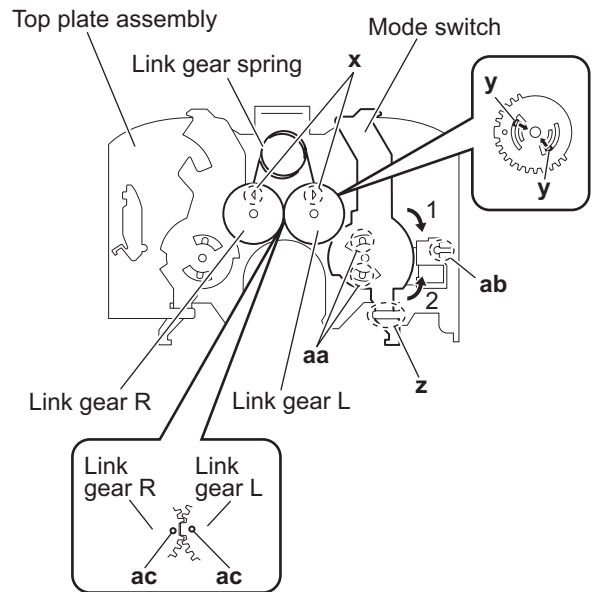

Fig.16
3.2.11 Removing the mode switch (See Fig.16)